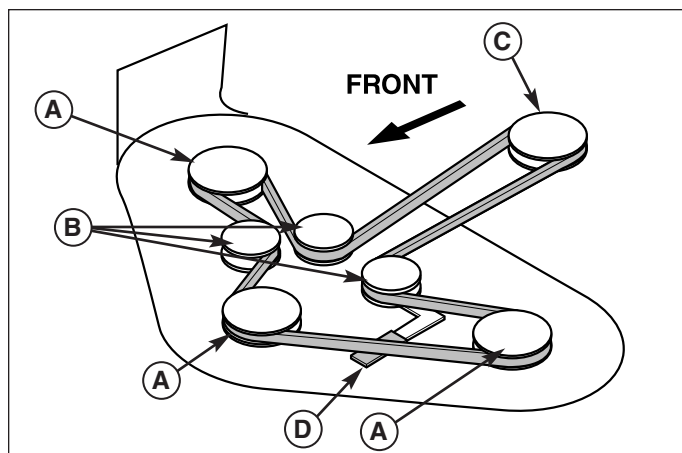

Figure 10. Mower Belt Routing
3. Use the mower belt tension lever (D, Figure 10) to release belt tension and remove the mower belt from the PTO pulley (C).
5. Release tension from the tensioning idler pulley using the belt tension lever (D, Figure 10) and install the belt as shown in Figure 10.